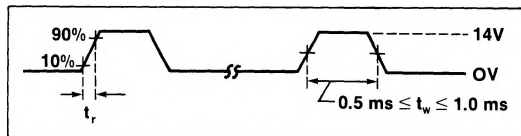

Figure 3. Protect Programming Pulse
- Step 2: Taking one pin at a time, apply a protect programming pulse (Figure 3) to each user-bus bit (UD0-UD7)—refer to Table 3 for min/max specifications pertaining to voltage and current.